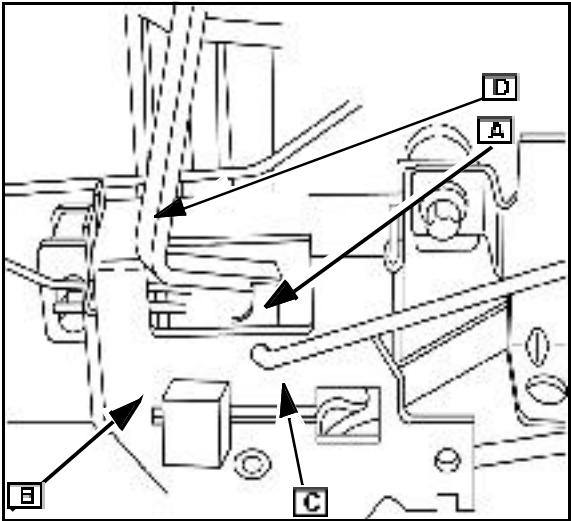
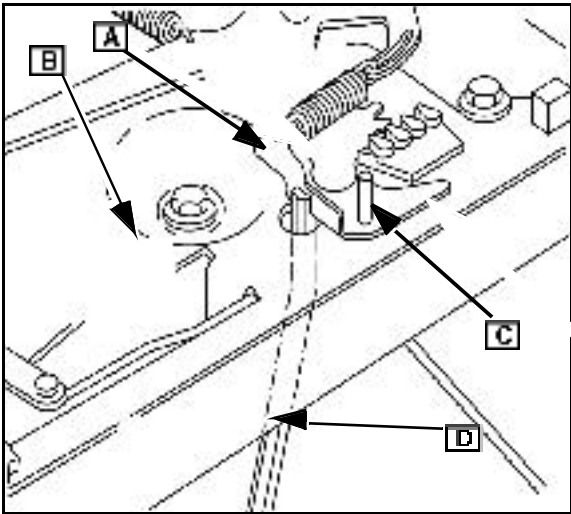

Fig. 37
Fig. 38
2. Align holes in the governor control lever gear (A) and governor control plate ([B] Fig. 37 or Fig. 38).
3. Insert 0.125 in. (3.2 mm) diameter rod ([C] Fig. 37 or Fig. 38).
4. Using tang bender tool (D), bend spring tab (or turn adjustment screw) to obtain proper top no load RPM.